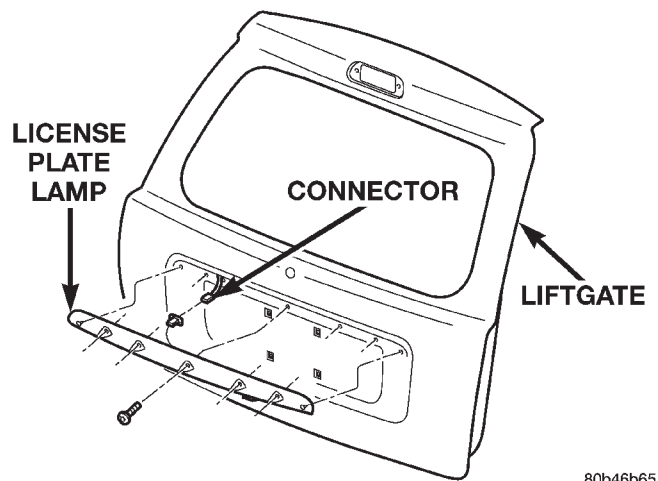

Fig. 5 License Plate Lamp Housing
- (1) Remove the screws attaching lamp assembly to liftgate (Fig. 5).
- (2) Pull the lamp assembly away from the sheetmetal at extreme outboard edges to disengage the push pins.
- (3) Separate lamp assembly harness wiring connector.
- (4) Remove lamp.